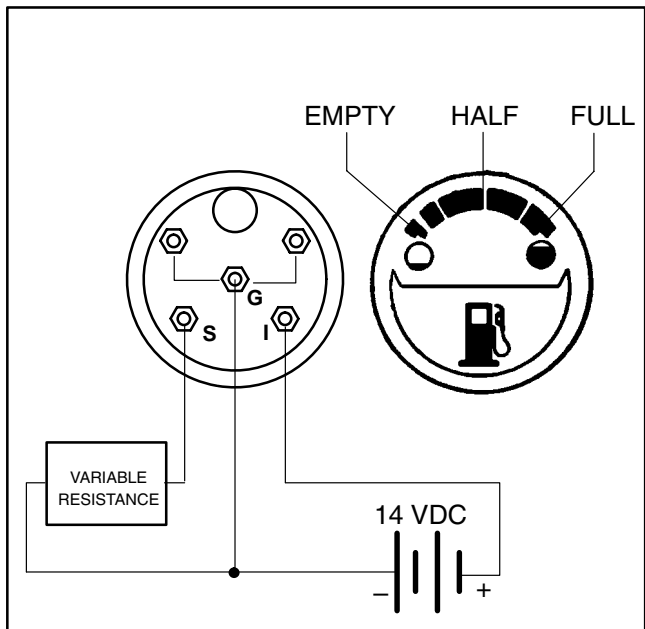

Figure 17
1. Connect the fuel gauge to the variable resistance and DC voltage source (Fig. 17).
2. Adjust resistance until the gauge needle points to following test points on the gauge (Fig. 17):